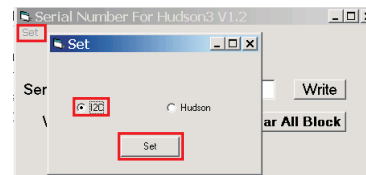

Fig.28
- Set I2C bus (press the left-top button of operating window) as shown in Fig.28, then press "SET" button.